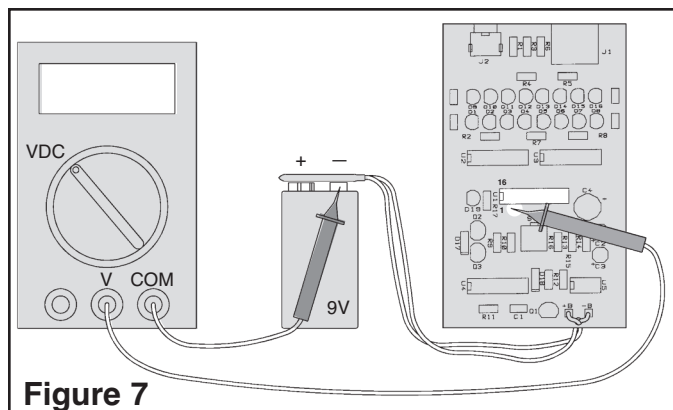

Figure 7
- ❑ 2. Set the voltmeter to read 20VDC and connect the COM lead to the negative (–) side of the battery and the V lead to pin 3 of IC U1 as shown in Figure 7.